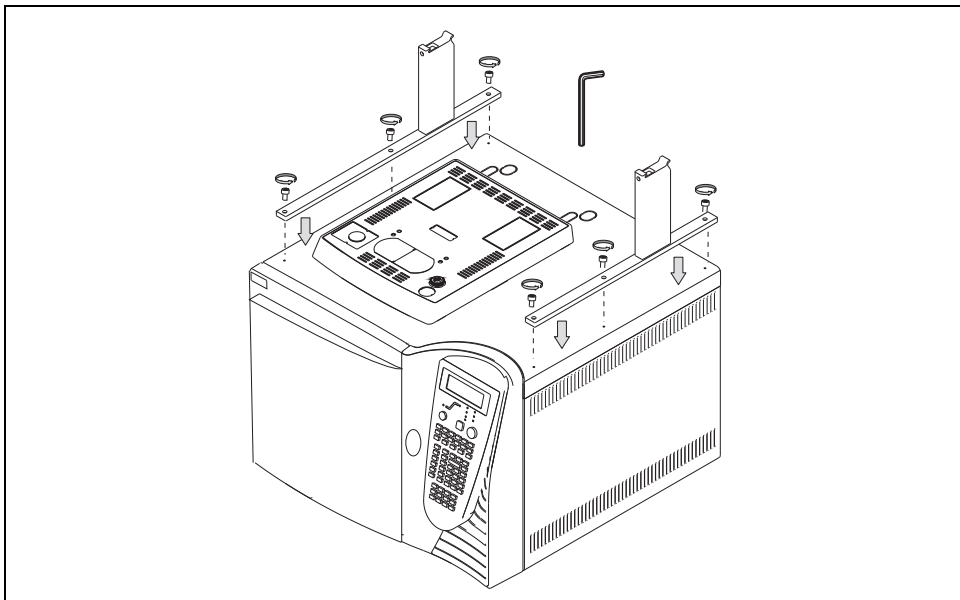

Figure 3-6. Sampler Supports Installation on the First TRACE GC Ultra
3. Mount each sampler support on the GC paying attention to have the support leg turned toward the back of the GC as shown in Figure 3-6.
4. Guide the fixing screws into the corresponding fixing holes, then tighten the fixing screws as shown in Figure 3-6.